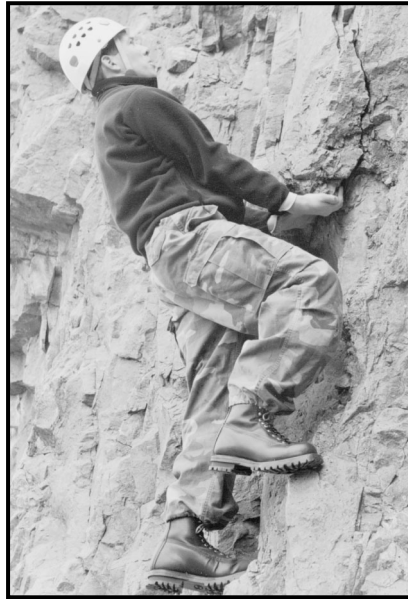

Figure 6-13. Undercling.
(3) **Undercling.** An “undercling” is a classic example of handholds and footholds working in opposition (Figure 6-13). It is commonly used in places where the rock